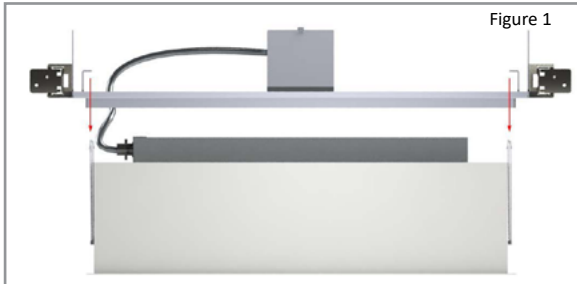

Figure 1
- Remove obsolete assembly from the frame by pulling the housing down and pinching the two spring clips inward, releasing the housing from the frame (*Figure 1*)